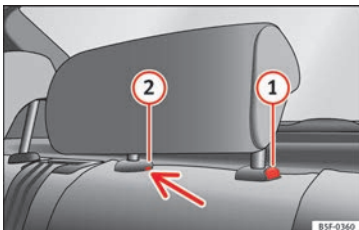

Fig. 155 Rear centre head restraint: release point.
- To set the head restraint lower down, press the »  Fig. 155  button and move it downwards.